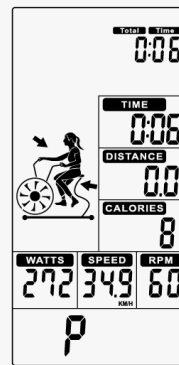
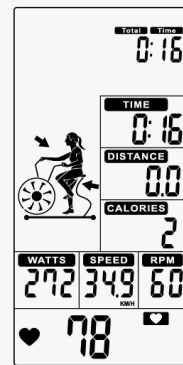

Figure 17
Figure 18
1. In Standby mode, press START to start work out quickly, the buzzer sound 1 second. TOTAL TIME/ TIME DISTANCE/ CALORIES/ WATTS/ SPEED/ RPM start to count up (Figure 17).
2. Whenever there is Pulse signal input,  will light up and  symbol will flash and display pulse value (Figure 18). Without pulse input, it will display "P" (Figure 17).